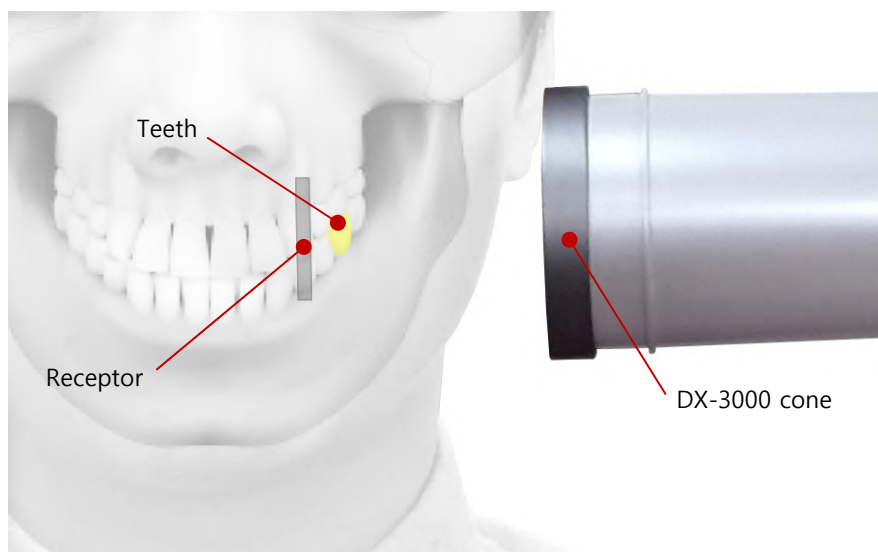

Figure 7.3 X-ray Panel display
- Typically, the receptor should be aligned with the center of the X-ray cone, perpendicular to the emitted X-rays (see Figure 7.3).